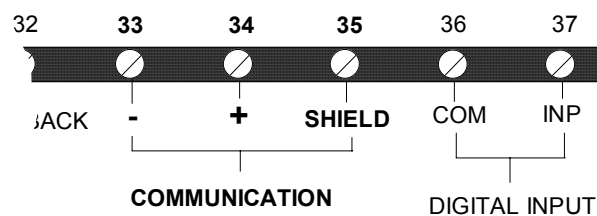

Figure 21 Terminal Block Connections for Modbus Communications
- Make the necessary connections to terminals 33, 34 and 35 on the actuator terminal block. See Figure 21.